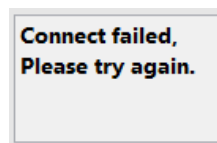

Fig13. Connection error
2. If the connection fails as Fig.13, please check whether the COM port is correct and then refresh and re-connect it.